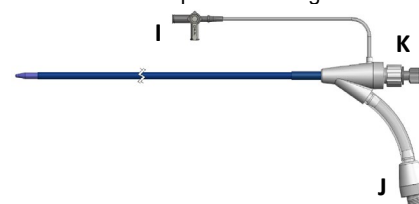

Figure 3: Aspiration Catheter with Dilator
The CLEANER Vac™ 18F Aspiration Catheter and Handpiece also includes an 18F (OD) x 115cm Aspiration Catheter and Dilator. The Aspiration Catheter (Figure 3) contains a radiopaque marker band, Side Port with 3-way stopcock (I), Aspiration Port (J), and Dilator Port (K). The Side Port allows for infusion of fluids. The Aspiration Port connects to the Handpiece, and the Dilator Port allows for guidewire and Dilator insertion. The Dilator includes a rotating collar used to secure the